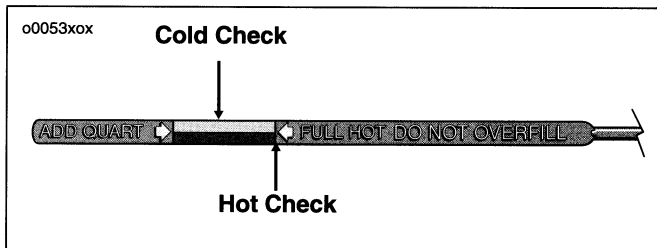

Figure 59. Engine Oil Level
2. See Figure 59. Remove the dipstick and note the level of the oil. Oil level should register between the two arrows on the dipstick.
4. See Figure 59. Remove the dipstick and note the level of the oil. Add only enough oil to bring the level to the FULL mark on the dipstick. **Do not overfill.**